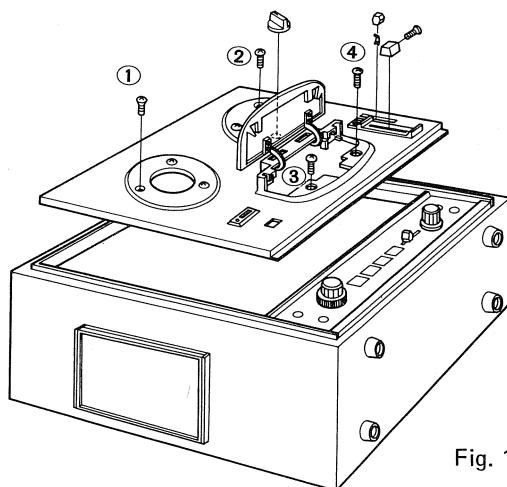

Fig. 1
3. Remove screws 1, 2, 3, 4 in Fig. 1.